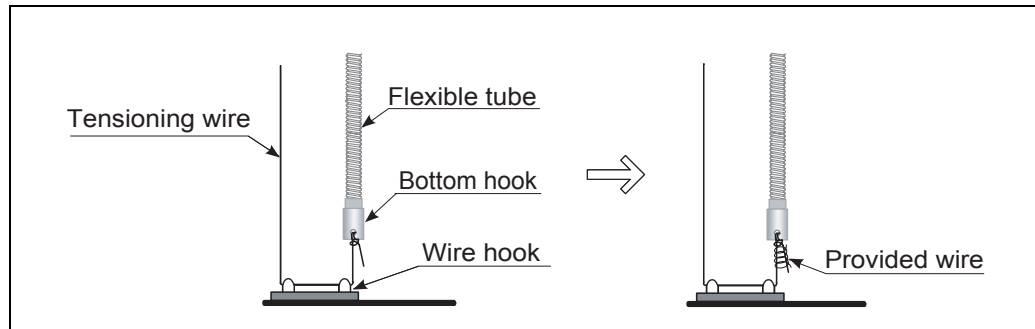

Fig. 8: Tensioning wire mounting
- Draw the end of the tensioning wire as much as possible by hand and foot (see fig.8)